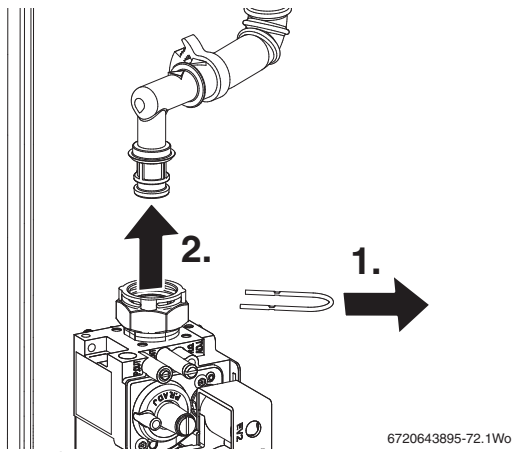

Fig. 95 Gas valve upper connection
1. Refer to figure 95 and remove wire clip from the gas valve outlet.
- ▶ Remove wire clip from gas valve outlet then pull gas pipe free from the gas valve (see figure 95).